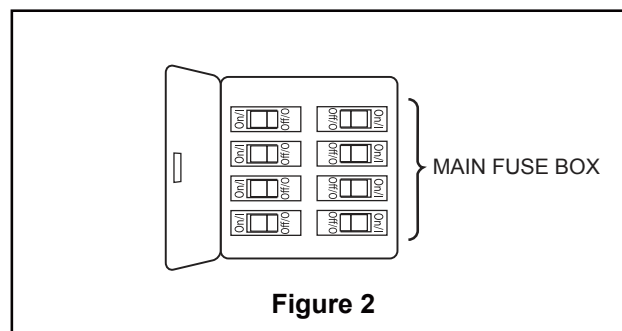

Figure 2
**To avoid possible electrical shock, be sure electricity is turned off at the main fuse box before wiring. (Figure 2)**